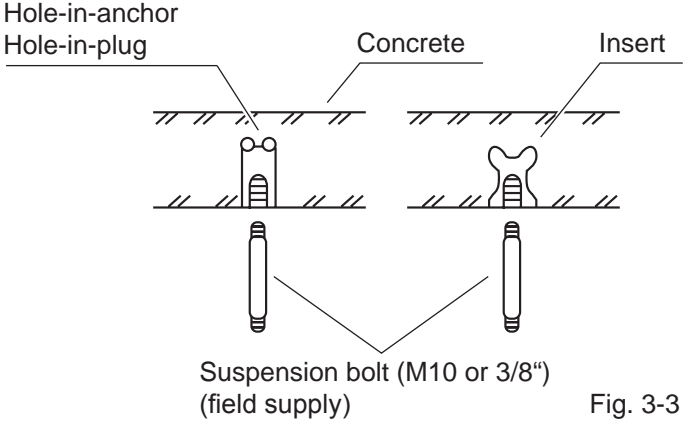

Fig. 3-3
- Insert suspension bolts as shown in Fig. 3-3
2. Screw in the suspension bolts allowing them to protrude from the ceiling as shown in Fig. 3-3. (Cut the ceiling material, if necessary.)